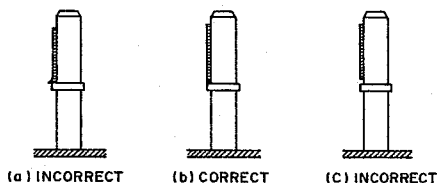

Fig. 4-3
- 4) Slightly turn the Ⓐ screw until the tape edge barely touches the lower part of the TAKE-UP TAPE GUIDE without any curl or wrinkle as shown in Fig. 4-3.